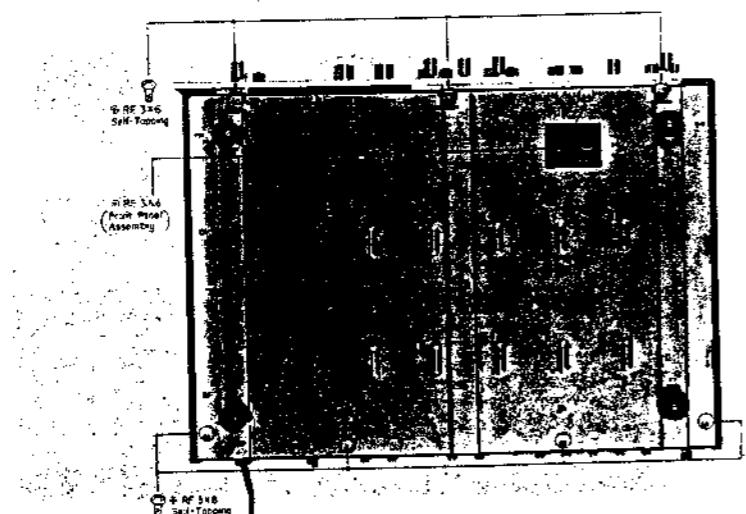

Fig. 2-3. Removal of Front-Panel Ass'y
- d. Turn the set over and remove the two self-tapping screws (+RF3φ × 6) from the front-bottom edge of the chassis. See Fig 2-3.
- Turn the set over and remove the three Phillips-Head screws (+RF3φ × 6) at the front-bottom edge of the chassis. See Fig. 2-3. This frees the Front Panel.